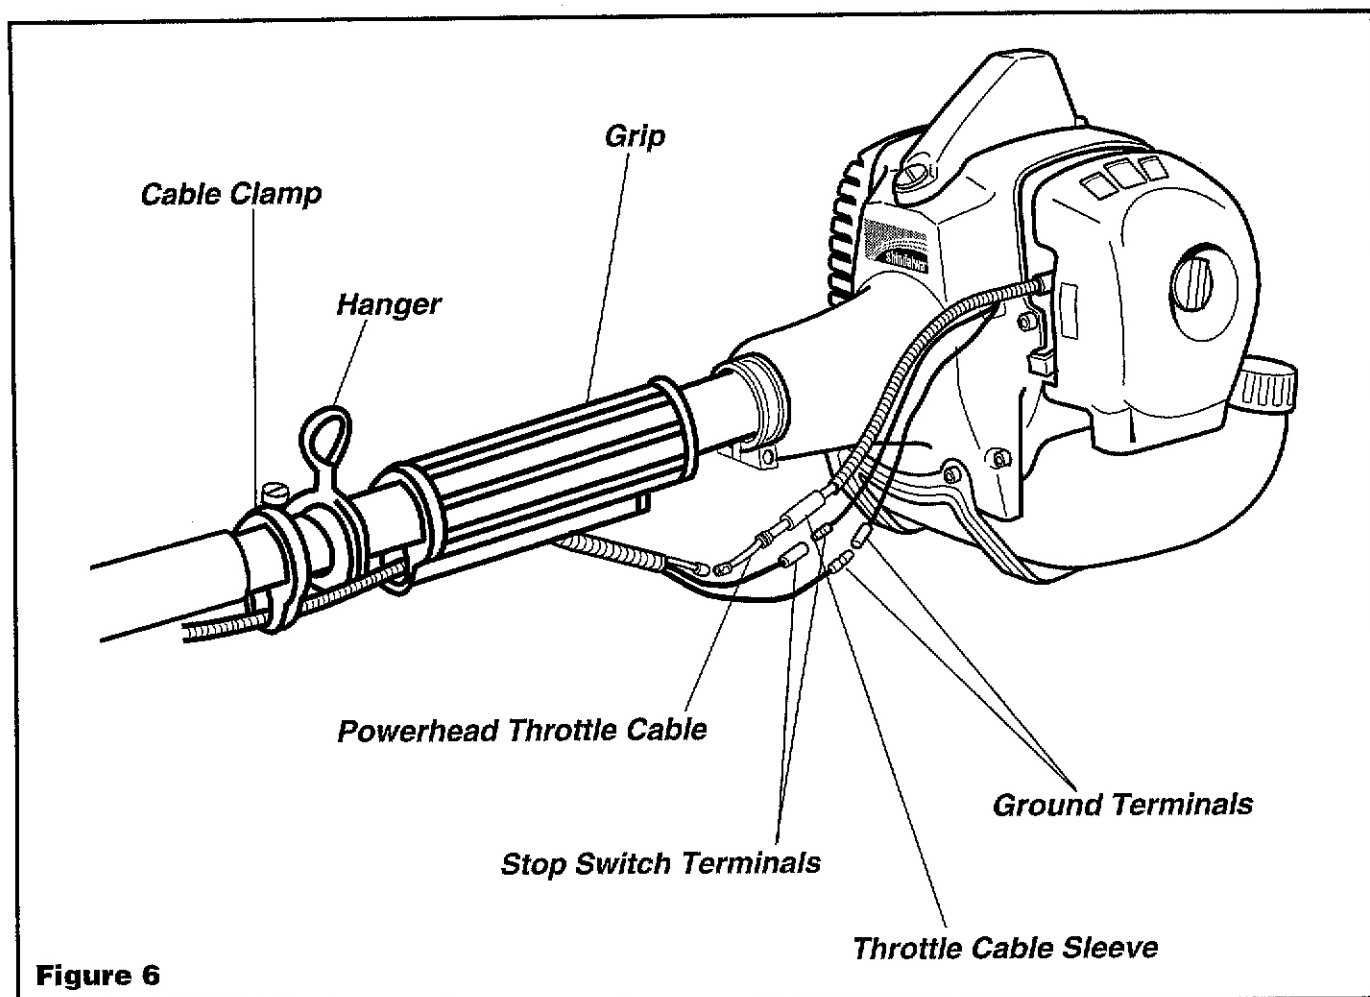

Figure 6
1. Slide throttle cable and terminal wires through the cable clamp and grip. See Figure 6.
2. Install the throttle cable sleeve on the powerhead throttle cable. See Figure 6.